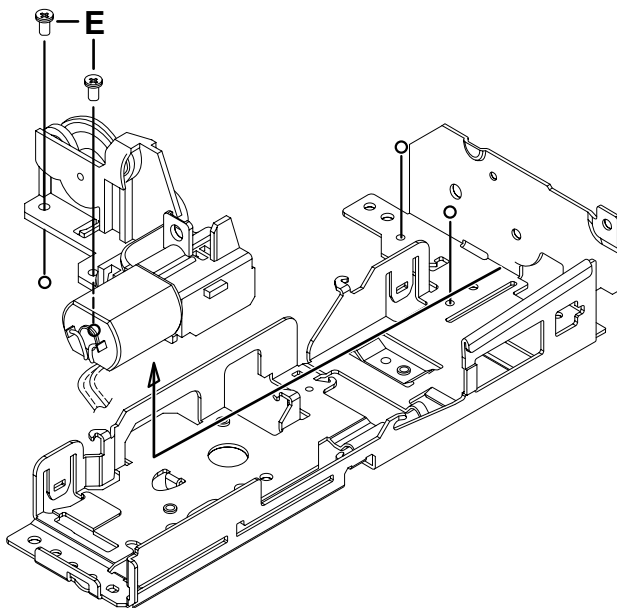

Fig.12
- (2) Remove the two screws **E** attaching the loading motor assembly, and then remove the loading motor assembly in the direction of the arrow. (See Fig.12)